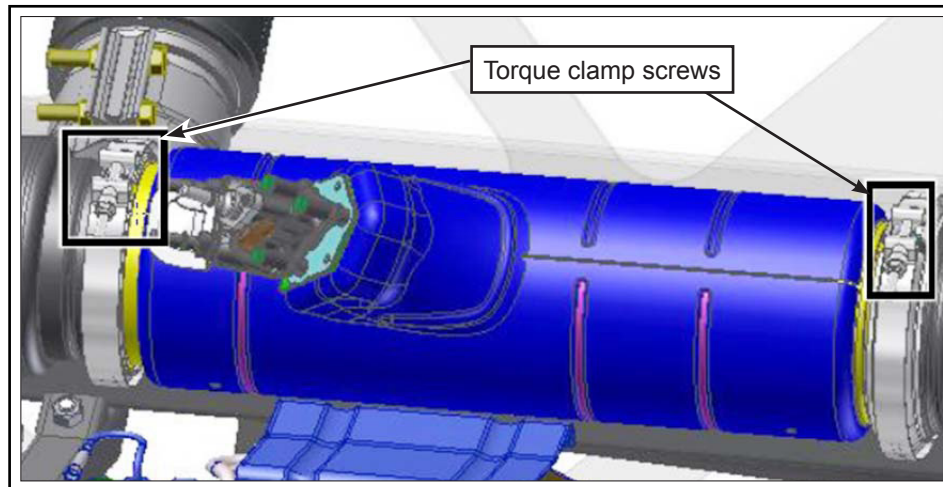

Figure 7 - Tighten the clamps
- 1.8. Tighten the clamps by applying the torque value of 14 ± 1 N•m (see Figure 7).